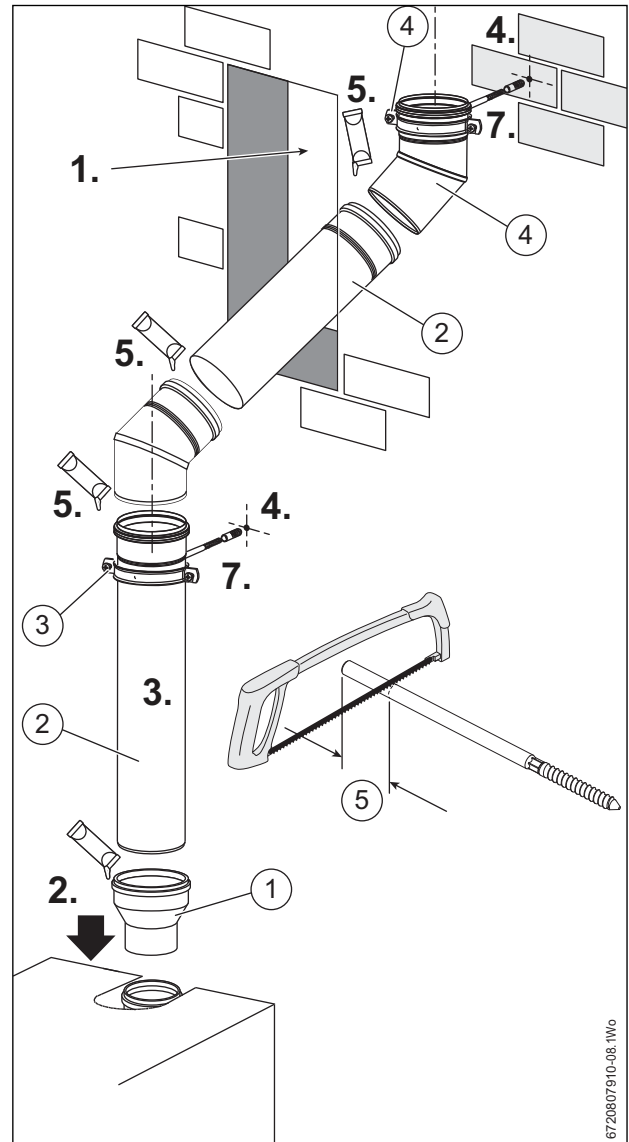

Fig. 12 Prepare the chimney opening
5. Grease the seals of the second stainless steel flue section [2] and two 135° flue bends and assemble onto the first flue section as shown in figure 12.